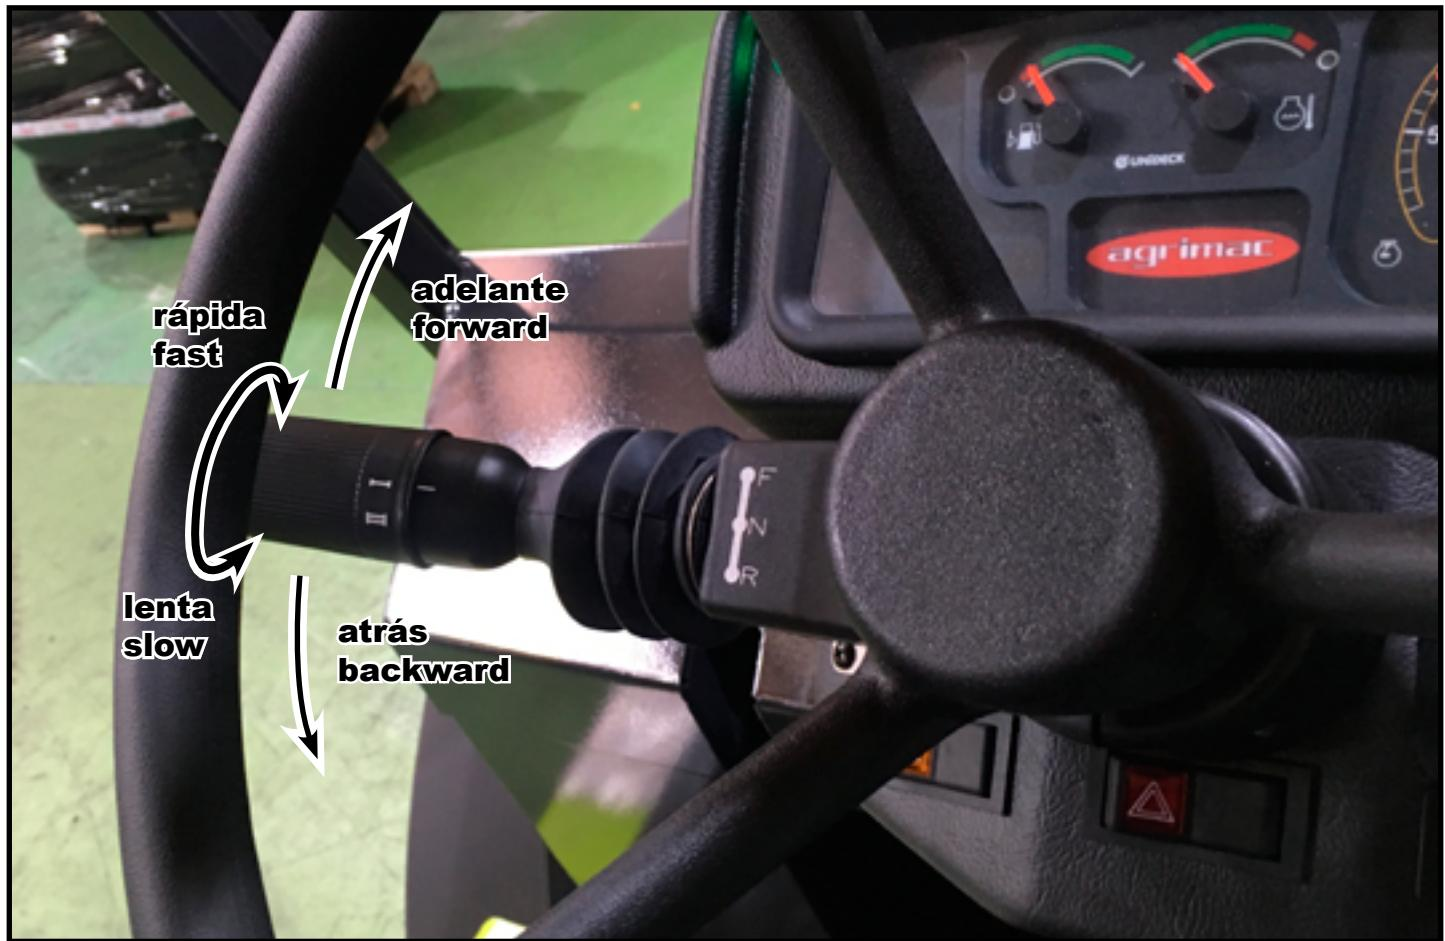

Fig.5
- 2) Put the inverstor lever 13, Fig. 1, into the desired gear, according to the indications of the Fig. 5.